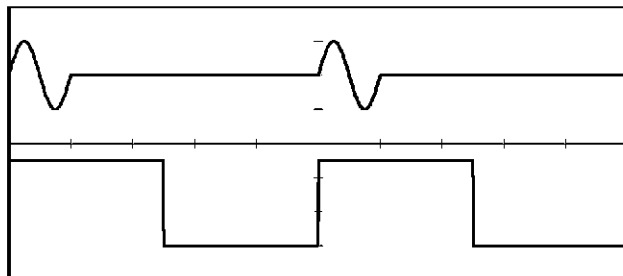

Figure 8-12 Waveform for Single, Once, Positive
24. Make sure with the oscilloscope that a sine wave signal is output for one period from the rising edge of the trigger signal, as shown in Figure 8-12.